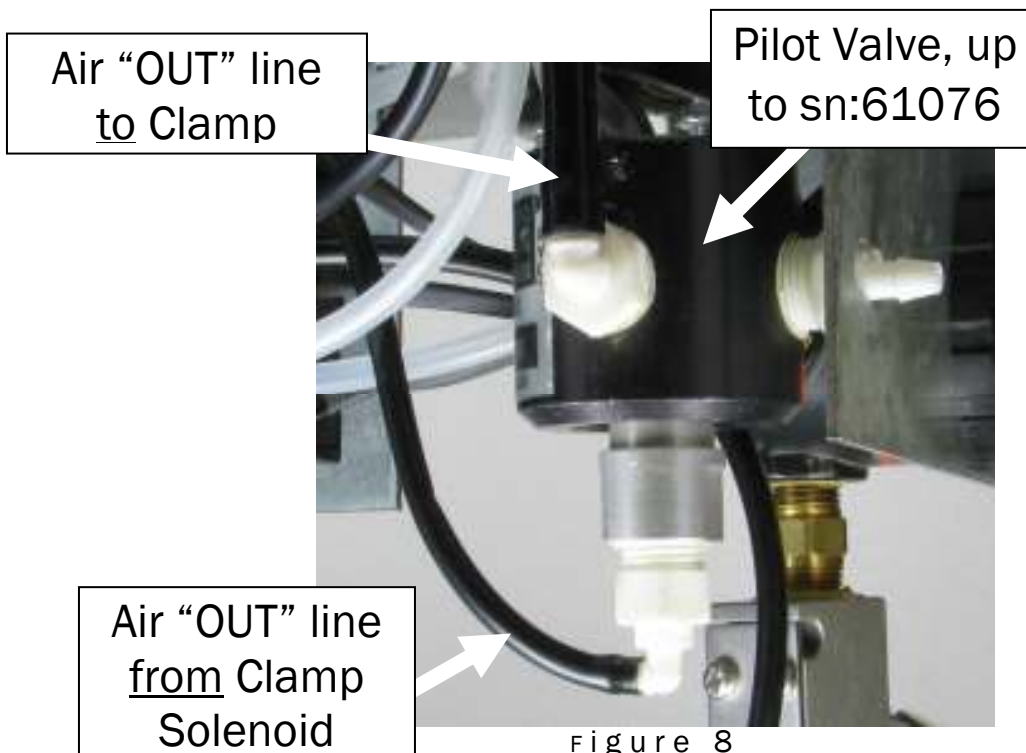

Figure 8
1. Disconnect the "Air Out" line from the Clamp Solenoid (this hose controls the Pilot Valve). **See fig. 8.**